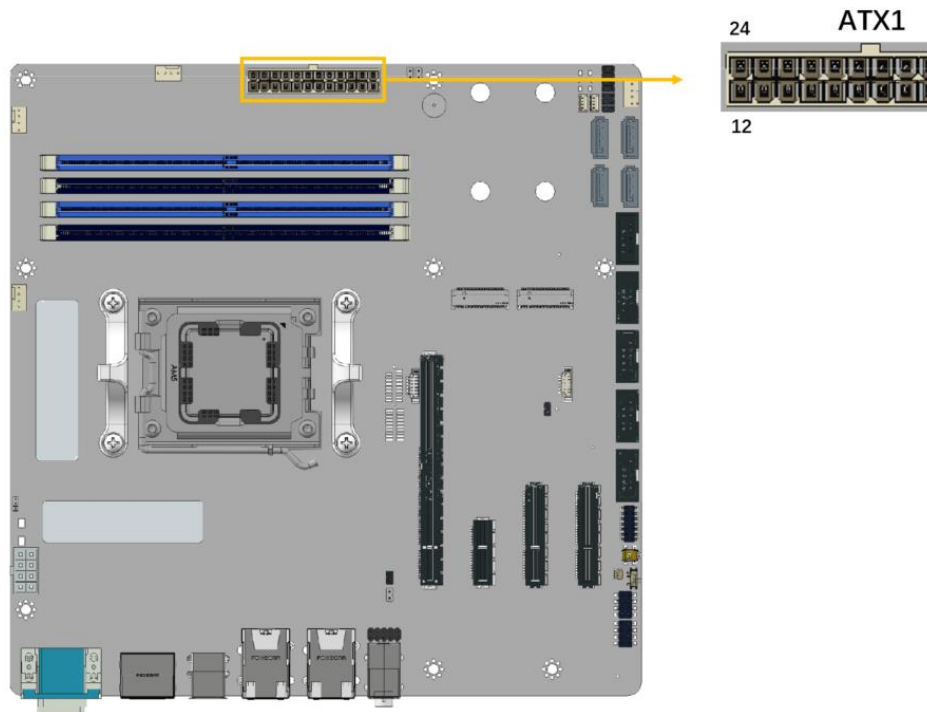

Figure 4-11: ATX Power Connector Location
- CN Location:** See **Figure 4-11**